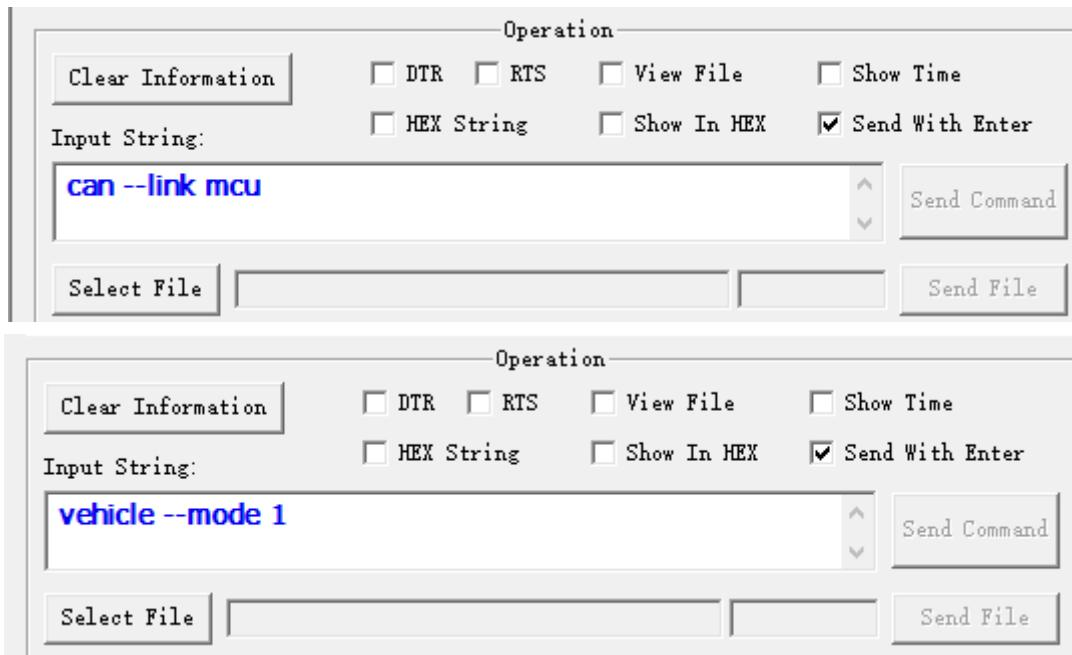

Figure 17: Command Sending
**Step 3:** Enter `can --link mcu` and `vehicle --mode 1` commands in the command window and send them to EVB, as shown in Figure 17: Command Sending. If a configuration is successful, an “**ok**” will be returned.